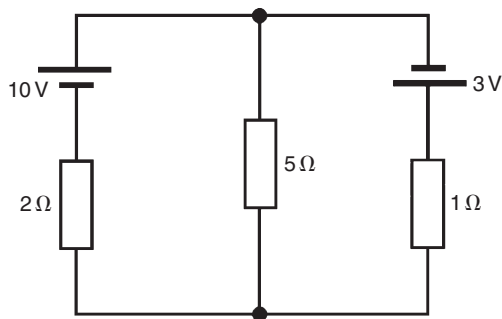

Figure RT4.1
1. Find the current flowing in the  $5\ \Omega$  resistor of the circuit shown in Fig. RT4.1 using (a) Kirchhoff's laws, (b) the superposition theorem, (c) Thévenin's theorem, (d) Norton's theorem.